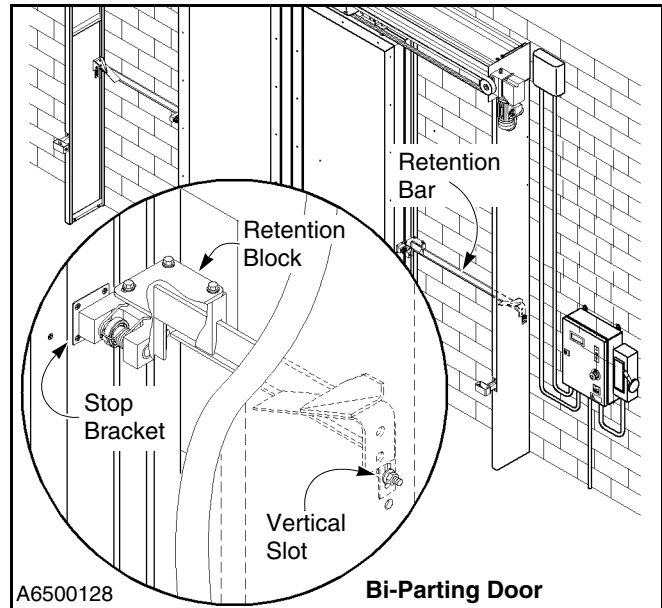

Figure 42
7. Now the retention bar(s) can be adjusted. At the end of each bar is a vertical slotted hole. These slots allow the bar to be adjusted up or down. (See Figure 42.)